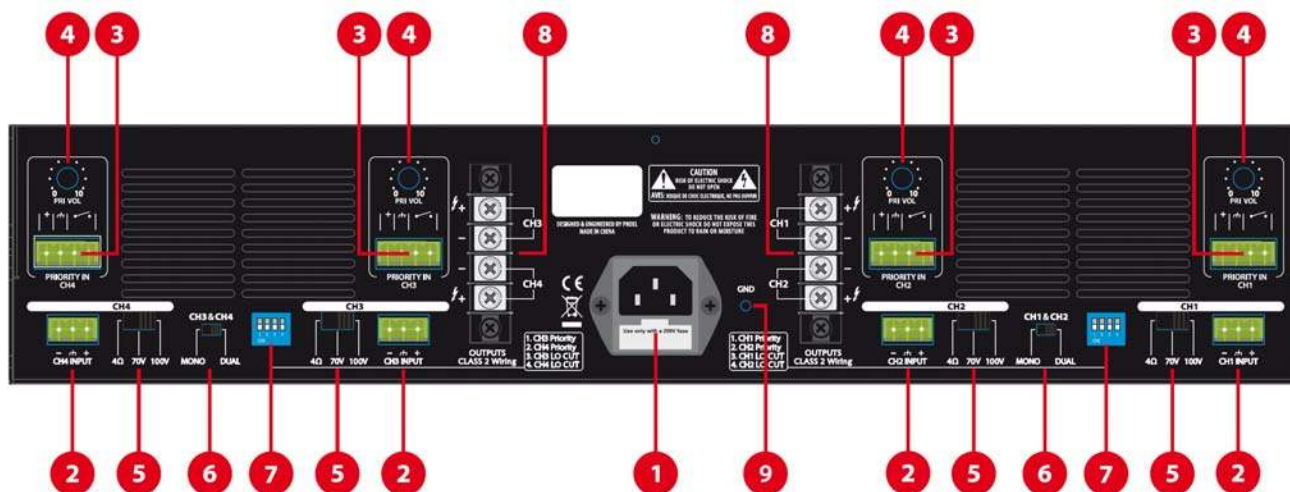

fig. 2
Connect loads having minimum electrical impedance of not less than 4Ω to the output terminal (Fig. 2, Ref. 8)
Connect loads of 70V to the output terminal (Fig. 2, Ref.8)
Connect loads of 100V to the output terminal (Fig. 2, Ref.8)
The priority input has a VOX function that can be connected and disconnected by means of the relative PIN (**Fig. 2, Ref. 7**):
VOX enabled – until the VOX circuit detects an audio signal on the input "PRIORITY IN CH_" (**Fig. 2, Ref. 3**), the relative "CH_ INPUT" input will be automatically muted and output will only have a priority signal.
"clean contact" – The priority input also has a "clean contact" that forces muting of the "CH_ INPUT" (**Fig. 2, Ref. 2**) input, leaving the "PRIORITY IN CH_" input active regardless of the PIN settings of the DIP SWITCH (**Fig. 2, Ref. 7**).
Connect the BM100A terminal to the priority input terminal board (**Fig. 2, Ref. 3**) according to the diagram reported under the base:
Operate this potentiometer to increase or decrease the audio signal level on the relative "PRIORITY IN CH_" (**Fig. 2, Ref. 3**).
In this operating status, connect a suitable power supply load to the output terminal (**Fig. 2, Ref. 8**) having minimum electrical impedance of not less than 4Ω
In this operating status, connect an adequately powered load of 100V to the output terminal (**Fig. 2, Ref. 8**)
In this operating status, connect an adequately powered load of 70V to the output terminal (**Fig. 2, Ref. 8**)
The signals on channel CH1 inputs will only be present on the CH1 amplified output (**Fig. 2, Ref. 8**). Similarly for CH2.
CH1&CH2 SELECTOR on MONO: In this status, both "CH1" and "CH2" outputs (**Fig. 2, Ref. 8**) will have the same amplified audio signal from the total of "CH1 INPUT" and "CH2 INPUT", the priority inputs "PRIORITY IN CH1" and "PRIORITY IN CH2", however, they will only operate and be present on their respective channels.
The signals on channel CH3 inputs will only be present on the CH3 amplified output (Fig. 2, Ref. 8). Similarly for CH4.
- CH3&CH4 SELECTOR on MONO:** In this status, both “CH3” and “CH4” outputs (Fig. 2, Ref. 8) will have the same amplified audio signal from the total of “CH3 INPUT” and “CH4 INPUT”, the priority inputs “PRIORITY IN CH3” and “PRIORITY IN CH4”, however, they will only operate and be present on their respective channels.
ON - enabled VOX priority operation on the relative “PRIORITY IN CH_” input (Fig. 2, Ref. 3).
OFF - disabled VOX priority operation on the relative PRIORITY IN CH_ input (Fig. 2, Ref. 3).
After selecting the operating mode (Fig. 2, Ref. 5), connect an adequate load to the respective output. Refer to paragraph 5 “**LOUDSPEAKERS CONNECTION**”.
Turn the operating method selector (Fig. 2, Ref. 5) to 4Ω.
Connect the constant impedance line (4Ω) between the two “+” and “-” terminals (**Fig. 2, Ref. 8**).
Turn the operating method selector (Fig. 2, Ref. 5) to 100V.
Connect the constant voltage line (100V) between the two “+” and “-” terminals (**Fig. 2, Ref. 8**).
Turn the operating method selector (Fig. 2, Ref. 5) to 70V.
Connect the constant voltage line (70V) between the two “+” and “-” terminals (**Fig. 2, Ref. 8**).